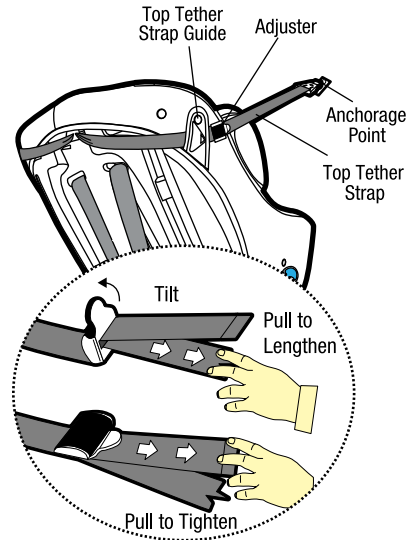

Figure 9
**Step 8:** Pull to tighten to remove all the slack, from the upper anchorage strap. Do not overtighten as this could cause the restraint to lift off the vehicle seat (refer Figure 9).